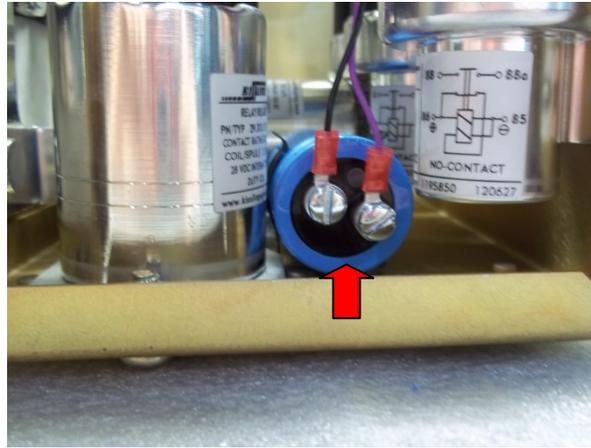

Figure 5-5: Remove Capacitor Wires
7. Remove the wires on the capacitor by removing two screws (**Figure 5-5**).